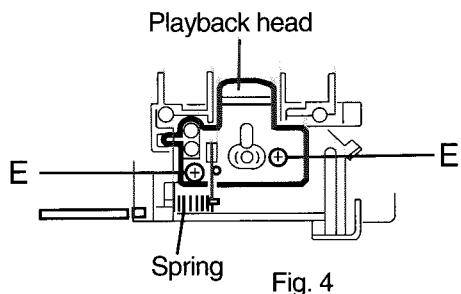

Fig. 4
3. Remove the four ribs **a** asecuring the front chassis assembly to the chassis.(See fig 4)
**■ Removing the Playback Head ( See Fig. 4 )**